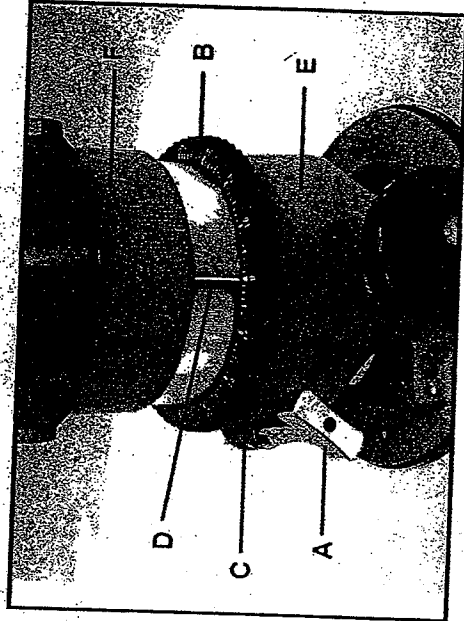

Fig. 3
2. Loosen clamp screw (A), Fig. 3.
3. While holding base (E), turn motor unit (F), Fig. 3, COUNTERCLOCKWISE until the tip of the bit is above bottom surface of base.
5. Turn motor unit (F), Fig. 3, CLOCKWISE until bit touches the wood surface.
6. Tighten clamp screw (A), Fig. 3.
1. Rotate depth adjusting ring (A), Fig. 3, until the desired ring (D) is opposite the index line (D) on the housing.
8. Loosen clamp screw (A), Fig. 3.
9. Tip the router so bit is clear of the wood surface. Turn motor unit (F), Fig. 3 CLOCKWISE until the index line (D) on the motor housing reaches the desired depth indicated on the ring.
10. Tighten clamp screw (A), Fig. 3 firmly.